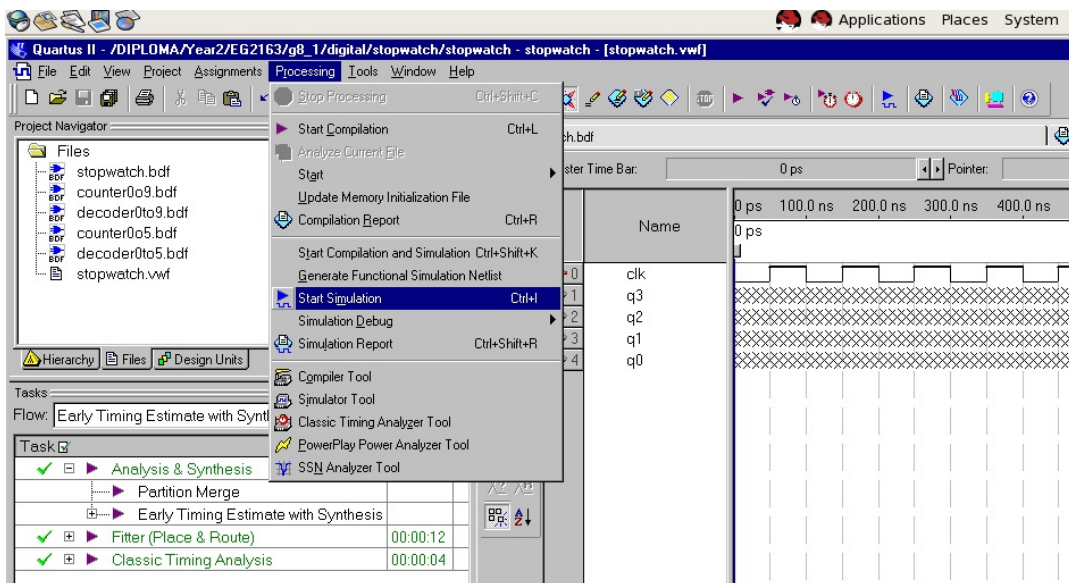

Figure 3.14 Simulate stopwatch (counter0to9)
8. Simulate *stopwatch* – *counter0to9* as shown in Figure 3.14.